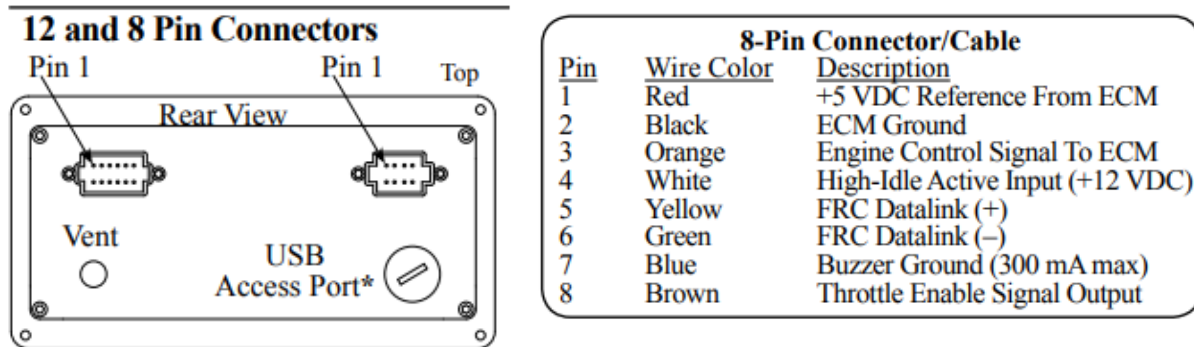

Figure 4.2
- 2) Connect the ground wire from the alarm to Pin 7 on the 8-pin connector on the governor. See Figure 4.2